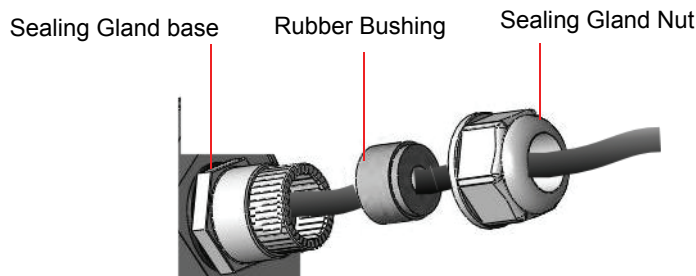

Figure 6: Inserting the Cable into the Sealing Cap
- 2 Connect the cable (see Figure 6):